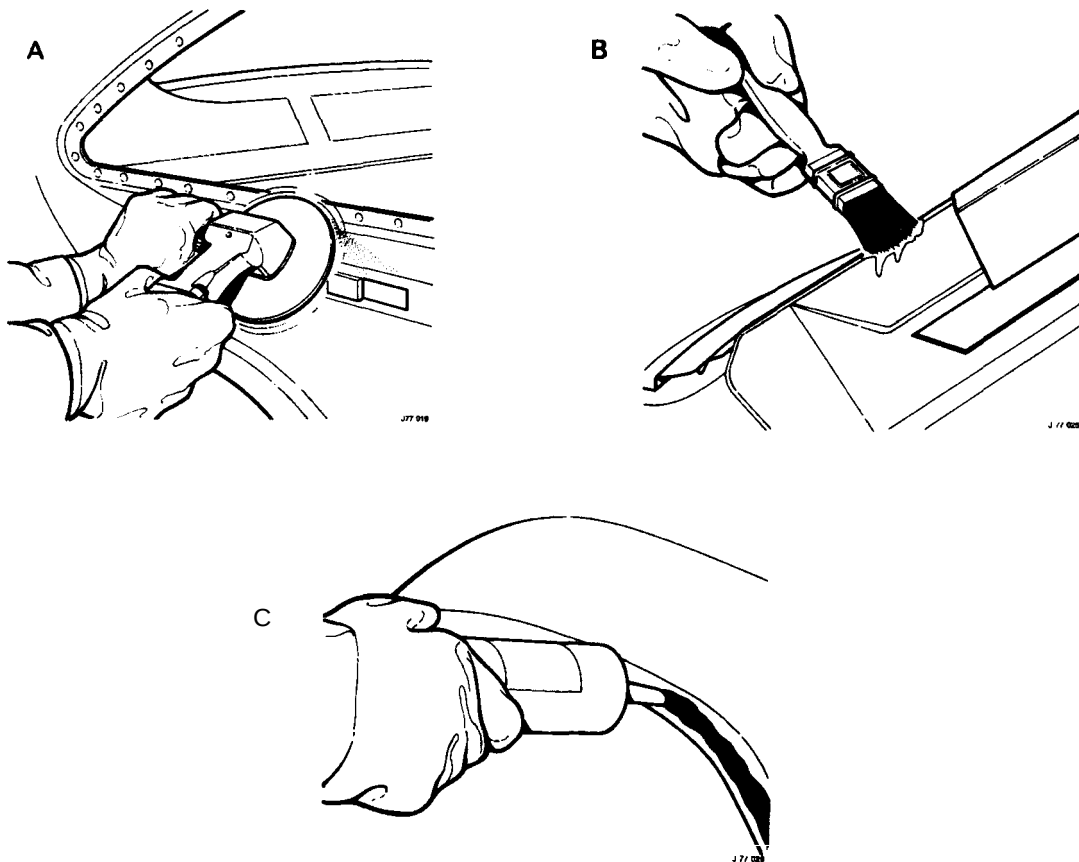

Fig. 1
- Prepare the new panel joint edges for welding by cleaning to bright metal (A Fig. 1); this includes all interior and exterior edges.
- Apply weld-through primer or interweld sealer (B Fig. 1) to all surfaces to be resistance spot welded.
- Where appropriate, apply **metal-to-metal** adhesive or sealer (C Fig 1) in accordance with the manufacturer's instructions.
- Align the replacement panel with associated panels and clamp in position; with certain panels it may be necessary to MIG tack weld (A Fig. 1) or use 'PK' screws.